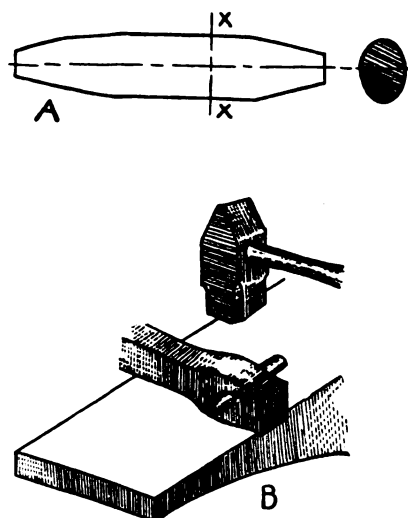

FIG. 1—THE BULGED SIDES ARE FORGED DOWN
out and, to prevent knocking the eye out of shape while forging down the bulge, a drift-pin (A, Fig. 1) is used. This is made of tool steel and tapers from near the center toward each end; one end being somewhat smaller than the other. The section in the engraving is taken at X, X. This center is the same shape and size as the eye is to be in the hammer.
When the bar has been heated, the drift-pin is driven tightly into the hole and the bulge forged down in the same way (B, Fig. 1) as a solid bar would be treated. When the drift-pin becomes heated it must be driven out and cooled, and under no circumstances should the bar be heated with the pin in the hole. The pin should always be used when there is danger of knocking the eye out of shape.
drawn out and shaped and a cut started at the point where the end of the hammer will come (B); the drift-pin being used as illustrated at B, Fig. 1, while forging the metal around the eye. The other end of the hammer is then worked up into shape; using a set-hammer as indicated at